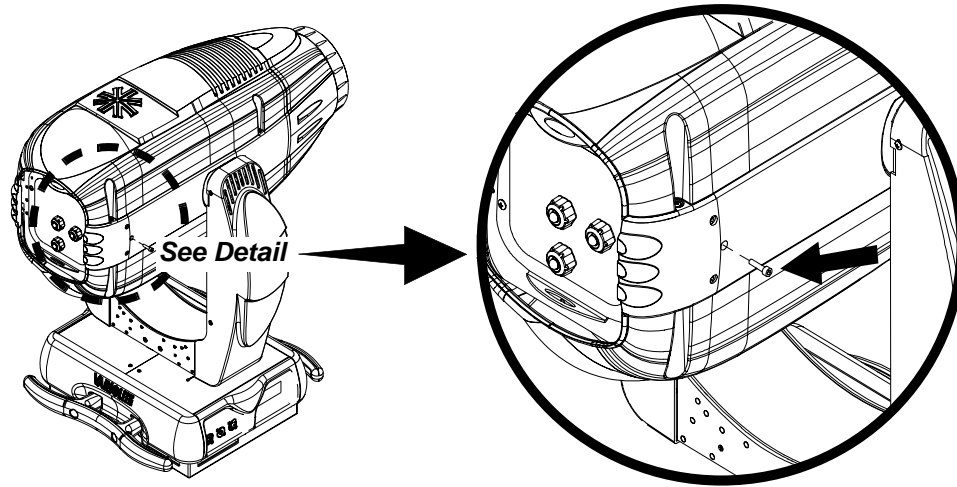
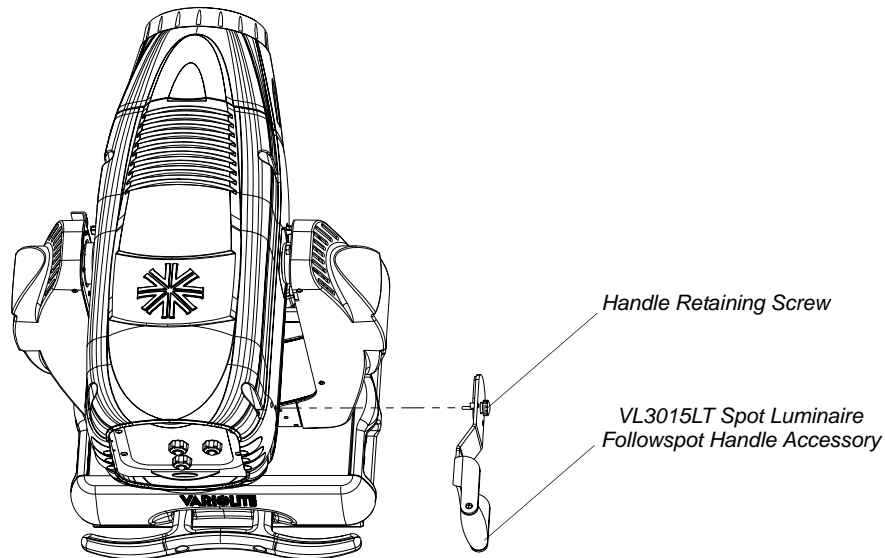

Figure A-6: Rear Rail Screw Removal
Figure A-7: VL3015LT Spot Luminaire Installation
Note: Figure A-6 and Figure A-7 (on page 73) illustrate handle installation on the right side of the luminaire. The VL3015LT Spot Luminaire can be installed on either side. Installation instructions are the same for either installation method. Up to two handles may be installed on a luminaire.
- Step 2. As shown in Figure A-6, at desired side of luminaire, remove indicated screw from back portion of side rail. Keep screw in a safe place for later use (if handle is removed and luminaire placed back into normal operational service).
- Step 3. As shown in Figure A-7, at desired side of Luminaire, position VL3015LT Spot Luminaire where retaining screw is inline with screw hole (where screw was removed in previous step).